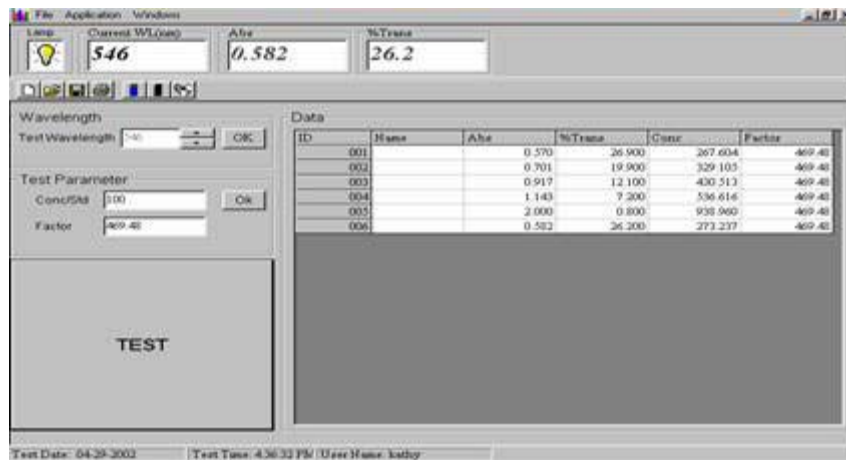

Figure-27 Sample Test Results of **Concentration/Standard Mode**
Step 7A: Place your sample(s) in the Sample Compartment and click the **TEST** Button for each sample to be measured. **Absorbance**, **Transmittance** and the **Concentration** of the samples will be displayed in the **Data Table** (Figure-27).